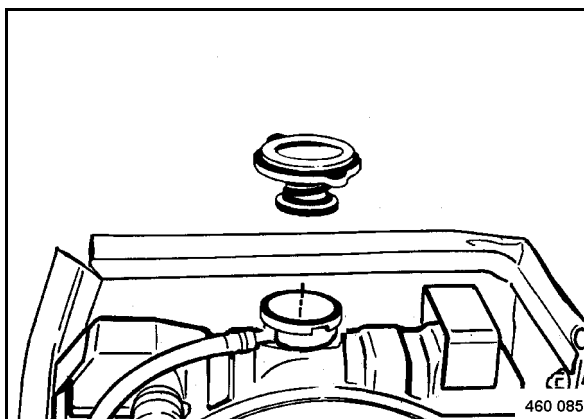

Fig. 126
- Remove the radiator cap (Fig. 126).